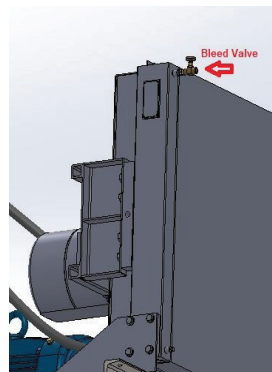

Figure 25: Bleed Valve Location
4. Open the bleed valve while initially filling the system until coolant comes out of the valve to evacuate the air, and then shut the bleed valve and continue to fill. (See Figure 25)
7. Open the bleed valve to allow air to evacuate the cooling loop system. (See Figure 25)